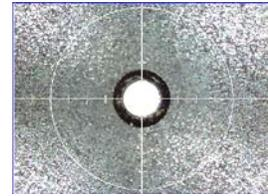

Figure 5-7: Camera Fiducial with Grid
- In the Camera Window, select **Grid On**. The shape should measure 2 millimeters across (1 grid tic from center each way), as shown in Figure 5-7. Use the Z jog buttons to adjust as the image size as needed.